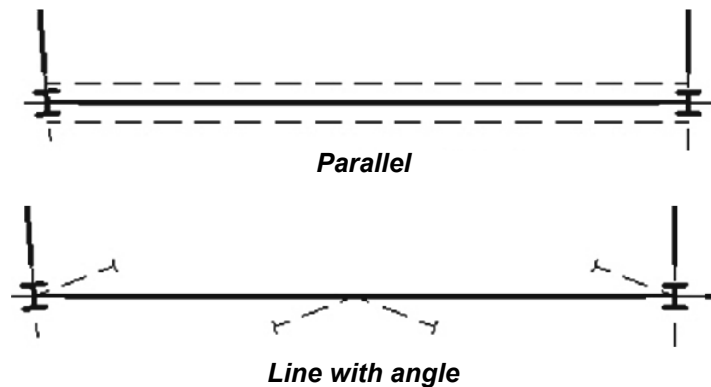

Figure 7–12
- In the *Manage* tab>Settings panel, expand  (Structural Settings) and click  (Structural Settings). In the Structural Settings dialog box, in the *Symbolic Representation Settings* tab, select the **Brace Symbol** options, as shown in Figure 7–13.